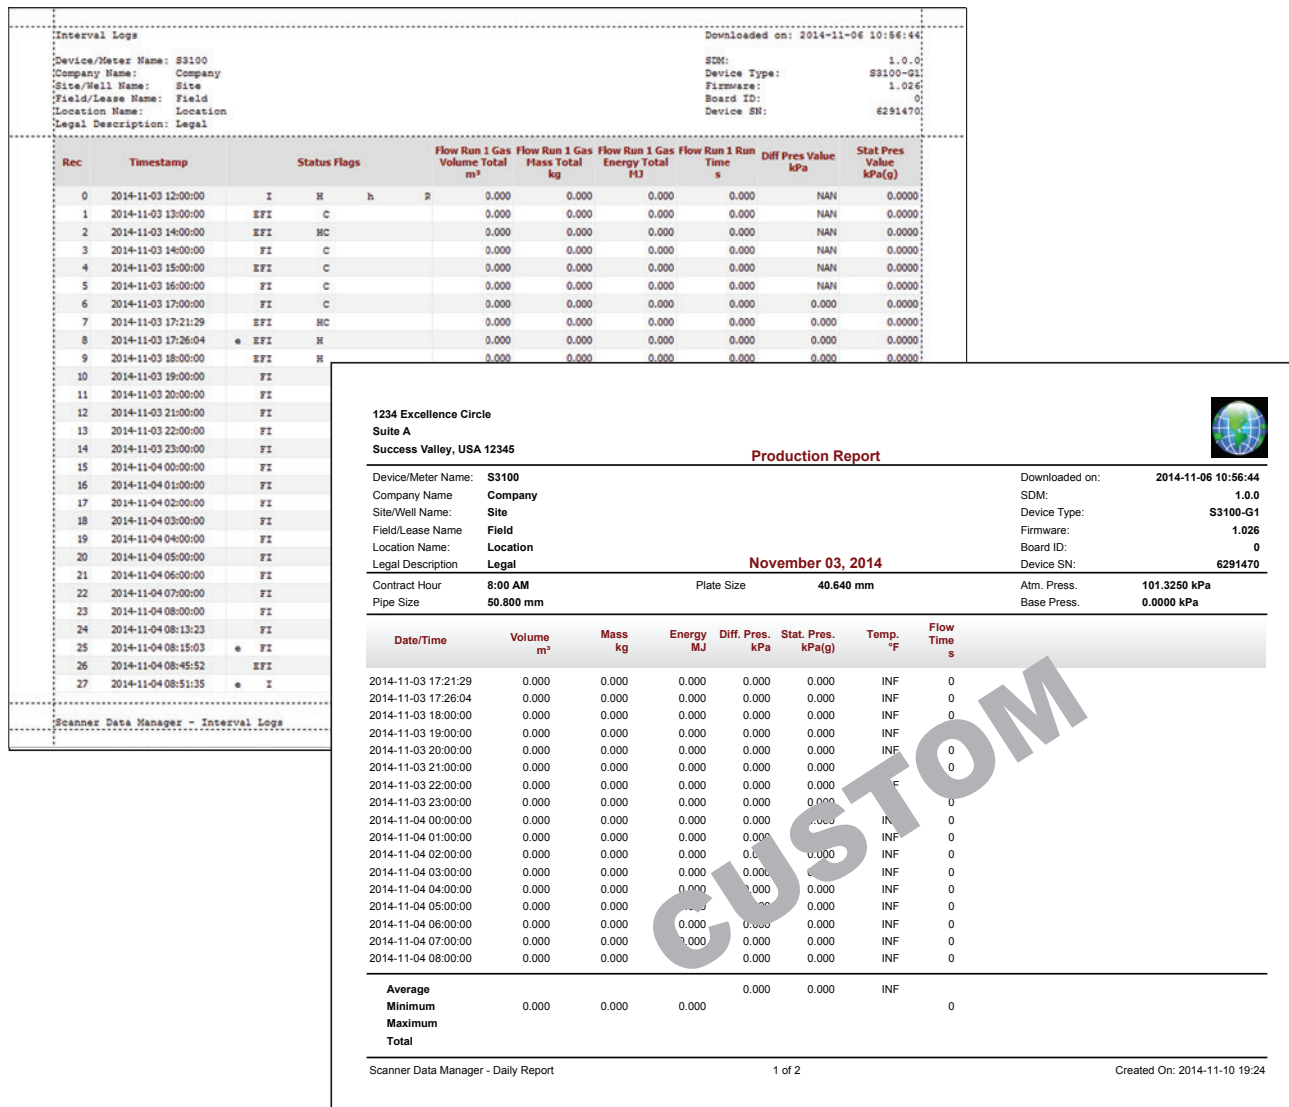

Figure 4.1—Comparison of standard report vs. custom report
- A standard report with a pre-defined layout that matches the main screen layout (see Standard Reports, page 44 and Figure 4.1)
- A custom report that allows the user to specify content and personalize the presentation with a company name, logo, and contact information (see Custom Reports, page 49 and Figure 4.1).